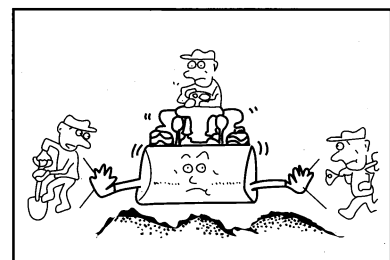

Figure1-56
- When loading a large size goods, be careful of lifting, moving and shifting gears. Be sure that no one enter into the working area, and a guider is necessary. (Figure 1-56)